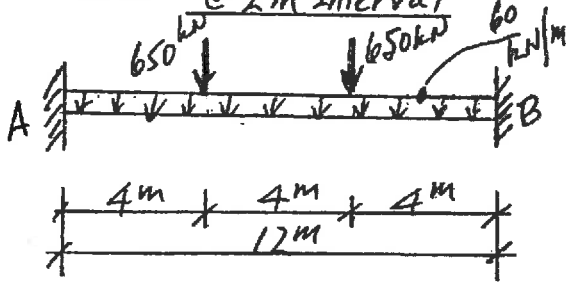

FIGURE 1
1. The beam AB in Figure 1 is a welded steel plate girder, rigidly supported at A and B. Design an adequate section to satisfy: